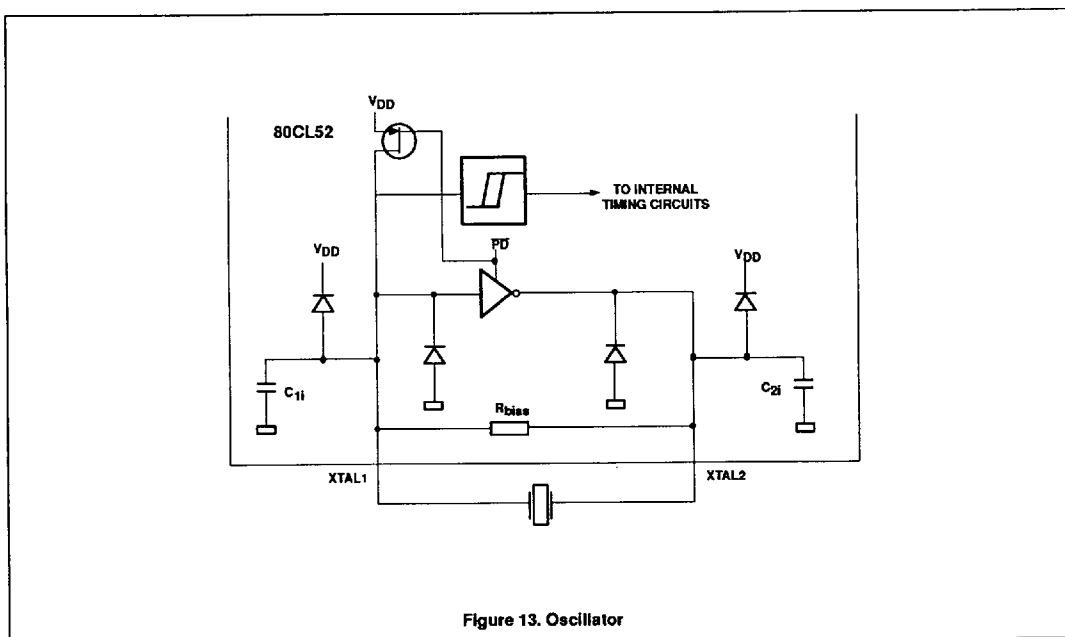
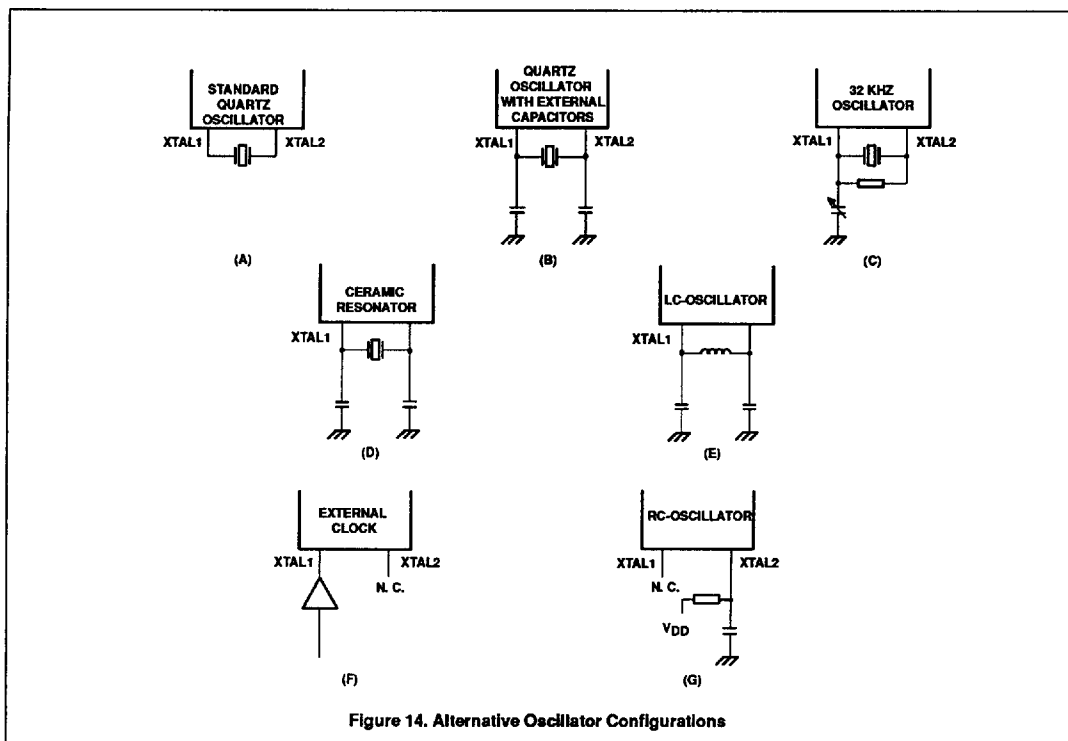

Figure 13. Oscillator
Figure 14. Alternative Oscillator Configurations
The on-chip oscillator circuitry of the 80CL52 is a single-stage inverting amplifier biased by an internal feedback resistor (Figure 13). For operation as a standard quartz oscillator, no external components are needed (except at 32 kHz). When using external capacitors, ceramic resonators, coils and RC networks to drive the oscillator, five different configurations are supported (see Figure 14 and oscillator options).
XTAL1. To drive the device with an external clock source, apply the external clock signal to XTAL1, and leave XTAL2 to float, as shown in Fig. 14(f). There are no requirements on the duty cycle of the external clock, since the input to the internal clocking circuitry is buffered by a flip-flop.
**1.7.1 Oscillator options (see Figure 14)**
32kHz: Figure 14(c). An option for 32 kHz clock applications with external
- Osc 2: Figure 14(e): An option for low-power, low-frequency operations using LC components or quartz.
- RC: Figure 14(g). An option for an RC oscillator.